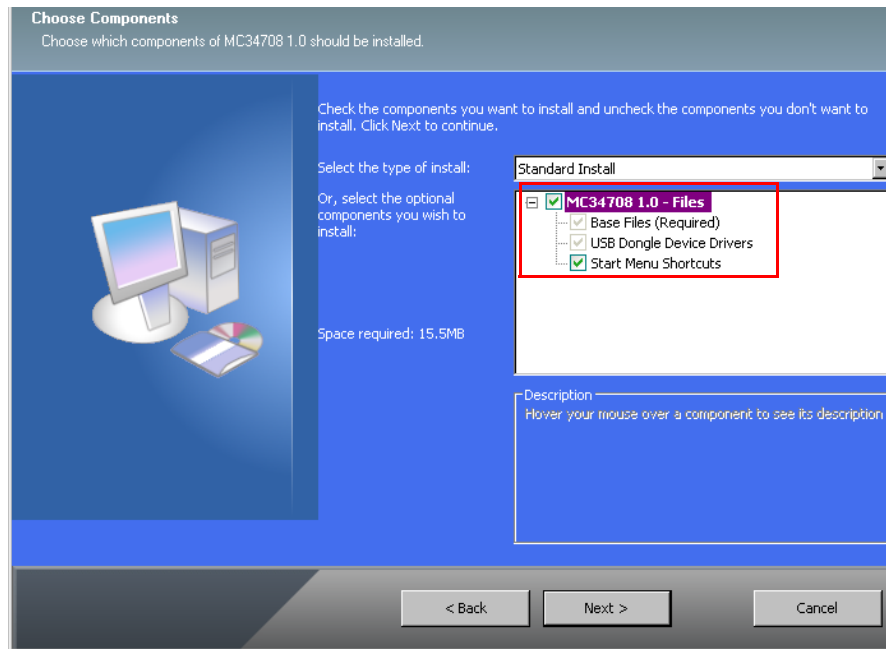

Figure 8. Select Components
3. The **Select Components** window (Figure 8) displays the application components and the device drivers for the USB Dongle. All these files need to be installed for the proper run of the MC34708 Installer.exe application.